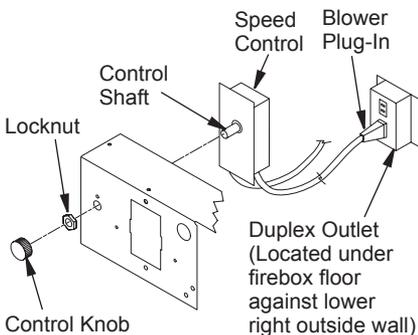

Figure 15 - Attaching Speed Control to Firebox with Panel Louvers
- Mount speed control box by placing plastic control shaft through bottom hole on speed control bracket. Top screw head on control box will fit inside top hole on bracket (see Figure 15). Secure speed control to bracket with lock nut by pushing and turning lock nut with pliers clockwise until it is tight against bracket.
- Place control knob, provided, onto control shaft (see Figure 15).
- Plug in blower power cord to duplex outlet (see Figure 15, page 13).